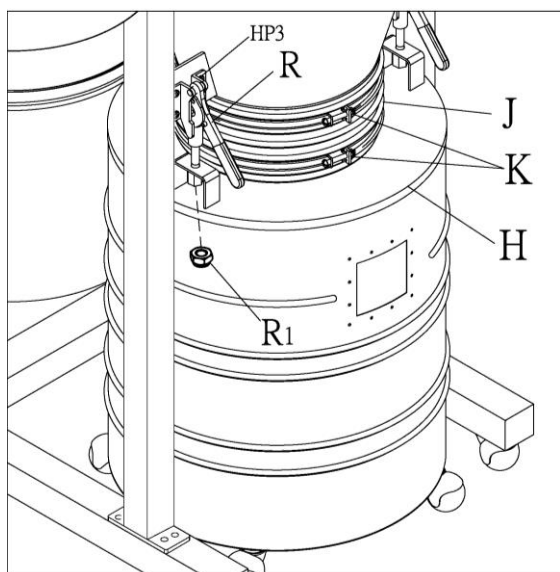

Figure 12
17. Install hose (J) onto cone and drum lid and secure with two hose clamps (K) at top and bottom. See Figure 12.
20. Pull down both quick levers (R, Figure 12) then assemble drum lid (H, Figure 12) to quick levers. Tighten long nut (R1, Figure 12) onto each quick lever.